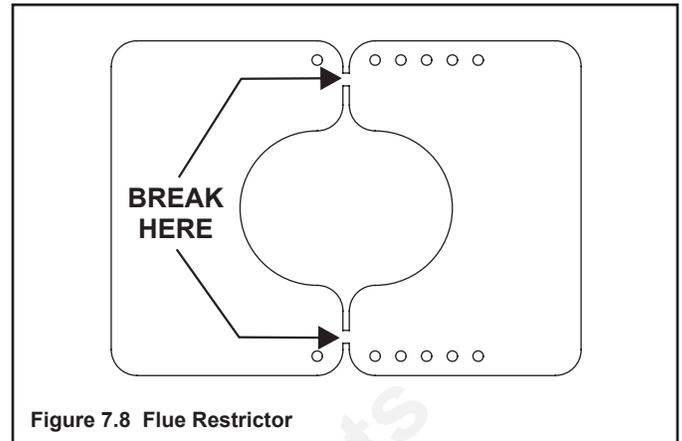

Figure 7.8 Flue Restrictor
2. Break the Flue Restrictor into two pieces. Do this by bending the part back and forth until it breaks (see Figure 7.8).